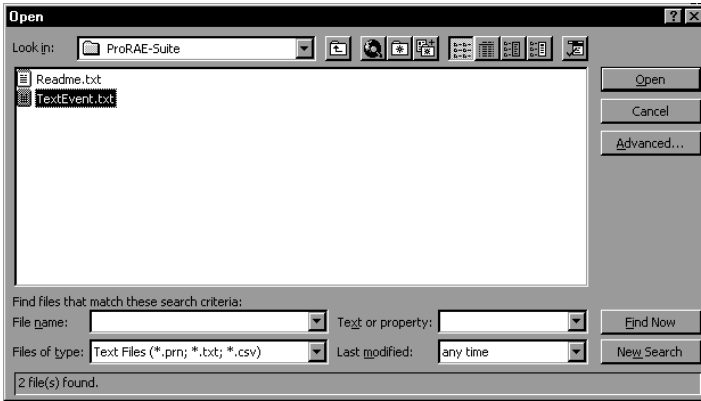

Figure C-2 Open Dialog Box
- Click the **File->Open** menu item to open the **Open** dialog box, select the folder where the file TextEvent.txt resides, and select the **Files of type** as Text Files. Click to select the file TextEvent.txt, as shown in Figure C-2.